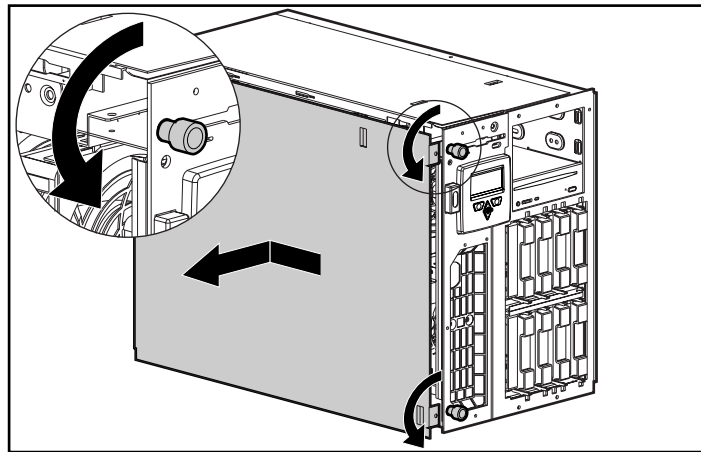

Figure 4-1. Removing the Server Cover
1. Remove the side panel as shown in Figure 4-1.